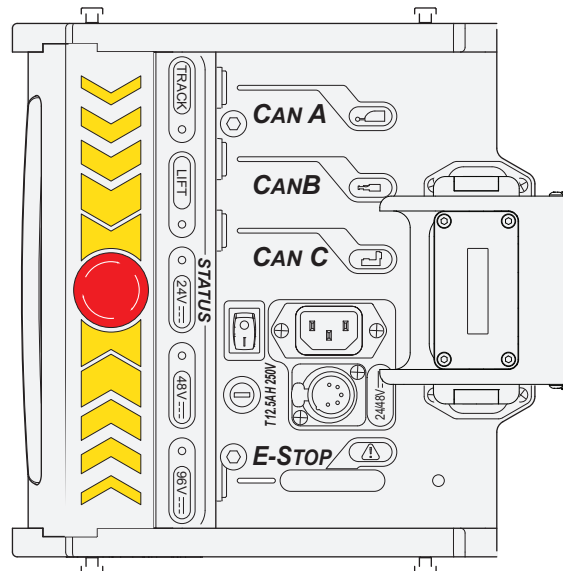

Figure 3.9 Connection Panel of the Furio SE Dolly, showing CAN Sockets (CAN A, CAN B, and CAN C)
- **20 m (65')** data cable from the **Bottom Right Socket** of CA1 to the **CAN A socket** on the **Dolly A connection panel** (see **Figure 3.9**).
- **2 m (6'6")** data cable from the **CAN C socket** on the **Dolly A connection panel** (see **Figure 3.9**) to either the **NETWORK A** or **NETWORK B** socket on the **robotic pan/tilt head**.
- **20 m (65')** data cable from the **Bottom Right Socket** of CA2 to the **CAN A socket** on the **Dolly B connection panel** (see **Figure 3.9**).
- **2 m (6'6")** data cable from the **CAN C socket** on the **Dolly B connection panel** (see **Figure 3.9**) to either the **NETWORK A** or **NETWORK B** socket on the **robotic pan/tilt head**.
- **20 m (65')** data cable from the **Bottom Right Socket** of CA3 to the **CAN A socket** on the **Dolly C connection panel** (see **Figure 3.9**).
- **2 m (6'6")** data cable from the **CAN C socket** on the **Dolly C connection panel** (see **Figure 3.9**) to either the **NETWORK A** or **NETWORK B** socket on the **robotic pan/tilt head**.
- **20 m (65')** data cable from the **Bottom Left Socket** of CA3 to the **CAN A socket** on the **Dolly D connection panel** (see **Figure 3.9**).
- **2 m (6'6")** data cable from the **CAN C socket** on the **Dolly D connection panel** (see **Figure 3.9**) to either the **NETWORK A** or **NETWORK B** socket on the **robotic pan/tilt head**.